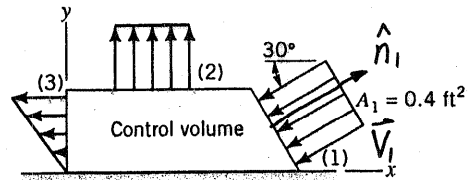

FIGURE P5.17
5.17 Water flows steadily through the control volume shown in Fig. P5.17. The volumetric flowrate across section (3) is $2 \text{ ft}^3/\text{s}$ and the mass flowrate across section (2) is 3 slugs/s .